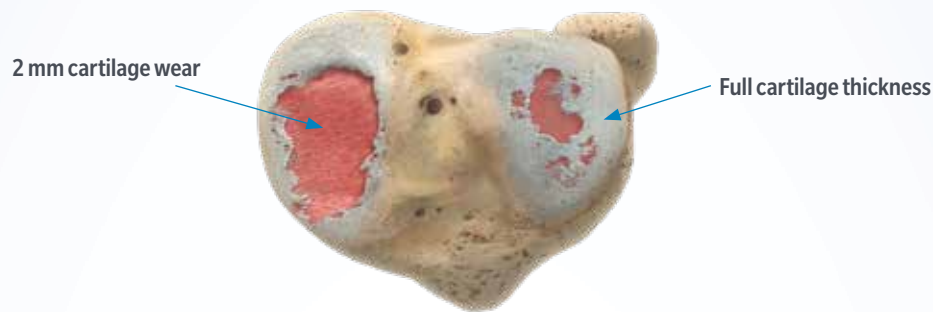

Figure 3: Tibial Plateau Resection References
- **Tibia Plateau Resection References:** On the less affected plateau, the landmarks should be taken on the lowest point of the plateau with full cartilage thickness. The landmarks on the more affected plateau should be taken directly on the bone or region of most cartilage wear, avoiding regions of bony wear (Figure 3). When selecting the resection reference landmarks on the two plateaus, the surgeon should estimate the thickness of cartilage wear on the more affected plateau (e.g., 2 mm).